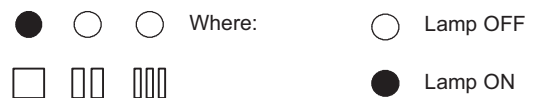

Figure 10.13
- 3 The lamps F should give the indication as in Figure 10.13 (reignition frequency). If not, press the reset button repeatedly to obtain it.